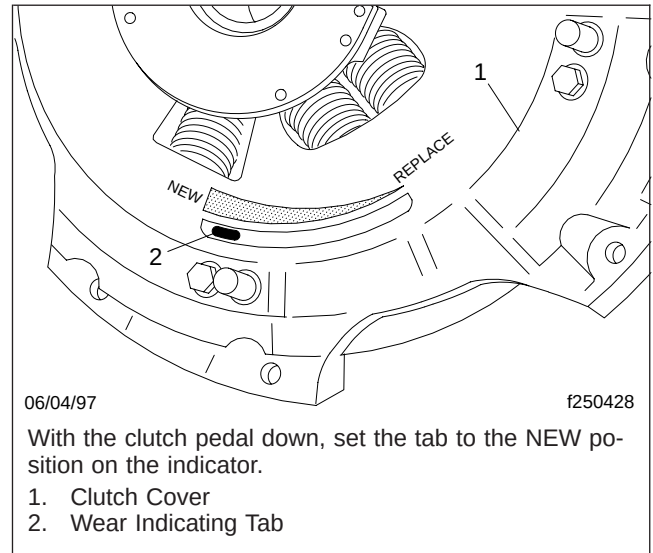

Fig. 1, Resetting the Wear Indicating Tab
- 1.2 Through the clutch inspection cover, slide the wear indicating tab to the left until it is at the NEW position on the indicator. See Fig. 1.